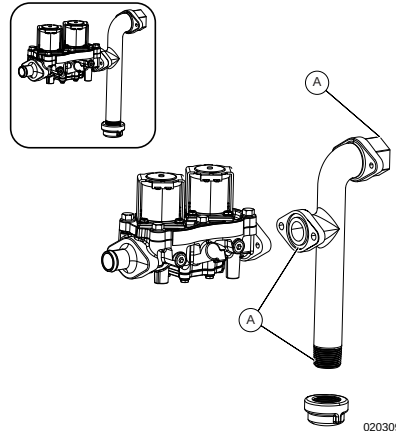

Figure 5-4. Connection Points to Leak Check
See Figure 5-4. Perform a final fuel system leak test after generator installation. The test will identify possible leaks at all connection points (A).